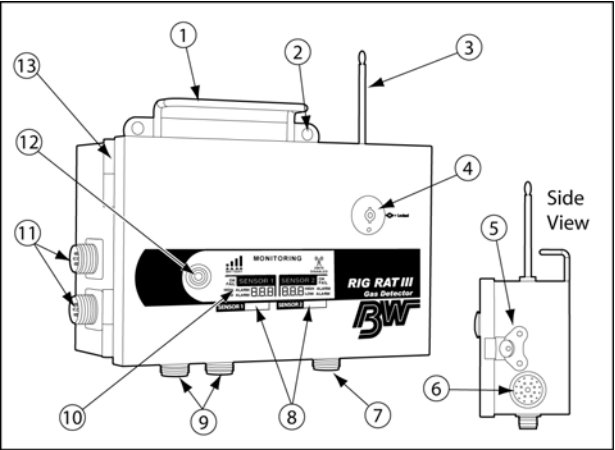

Figure 1. Rig Rat III External Components
- Figure 1 and Table 4 describe the main external components of the detector.